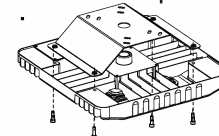

Figure 6
1. Attach and secure the mounting bracket to the back of the fixture using the included screws (Figure 6).